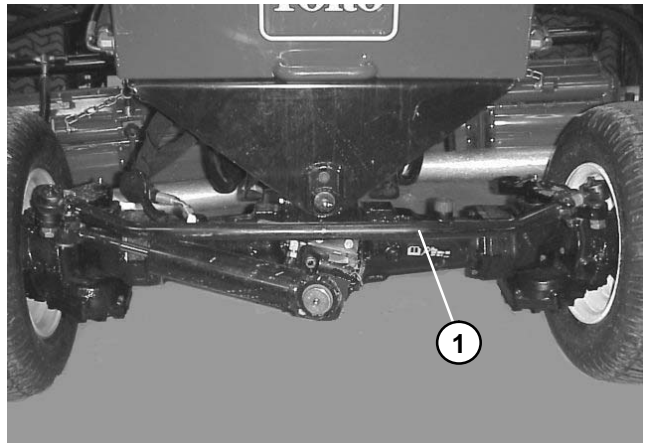

Figure 10
2. Remove the cotter pin and slotted hex nut from either tie rod ball joint. Use a ball joint fork and remove the tie rod ball joint from the axle case support (Fig. 10).
4. Rotate the detached ball joint inward or outward one (1) complete revolution. Tighten the clamp at the loose end of the tie rod.
5. Rotate the entire tie rod assembly the same direction (inward or outward) one (1) complete revolution. Tighten the clamp at the connected end of the tie rod.